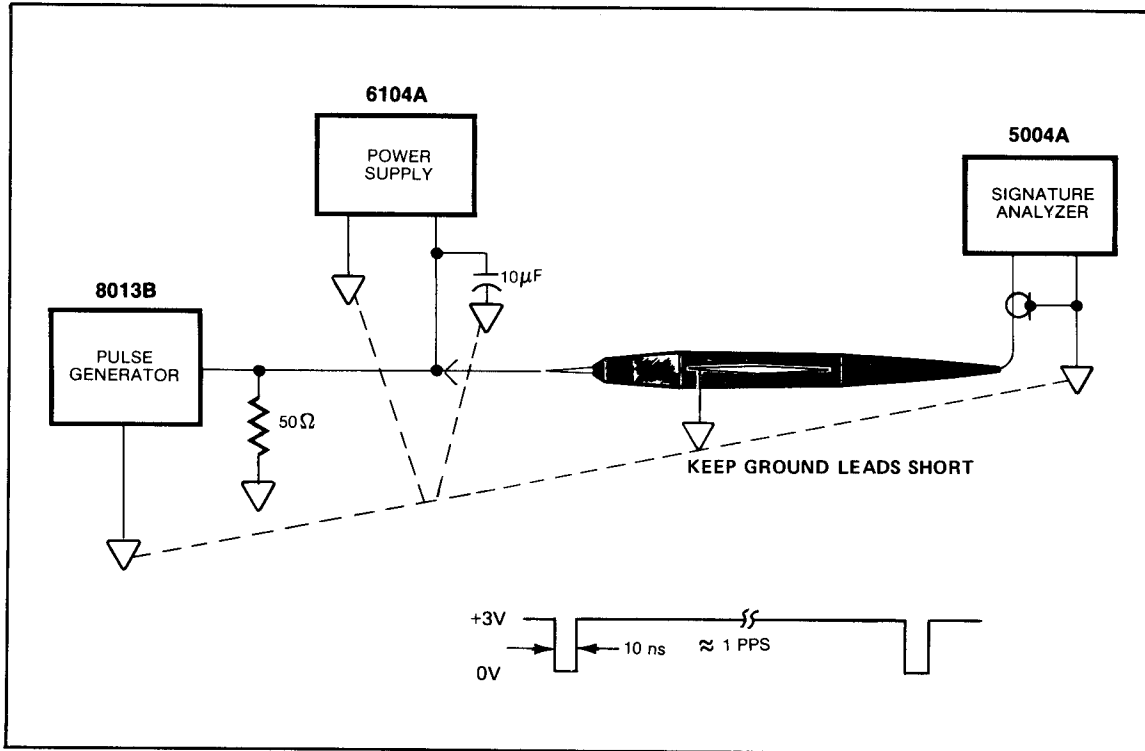

Figure 4-3. Negative Pulse Performance Test Setup
- 4-9. With test equipment connected as in *Figure 4-3*, proceed as follows:
- Adjust pulse generator to give waveform at probe tip as shown in *Figure 4-3*, with a repetition rate of one-pulse-per-second. Probe indicator should flash off approximately once per second.